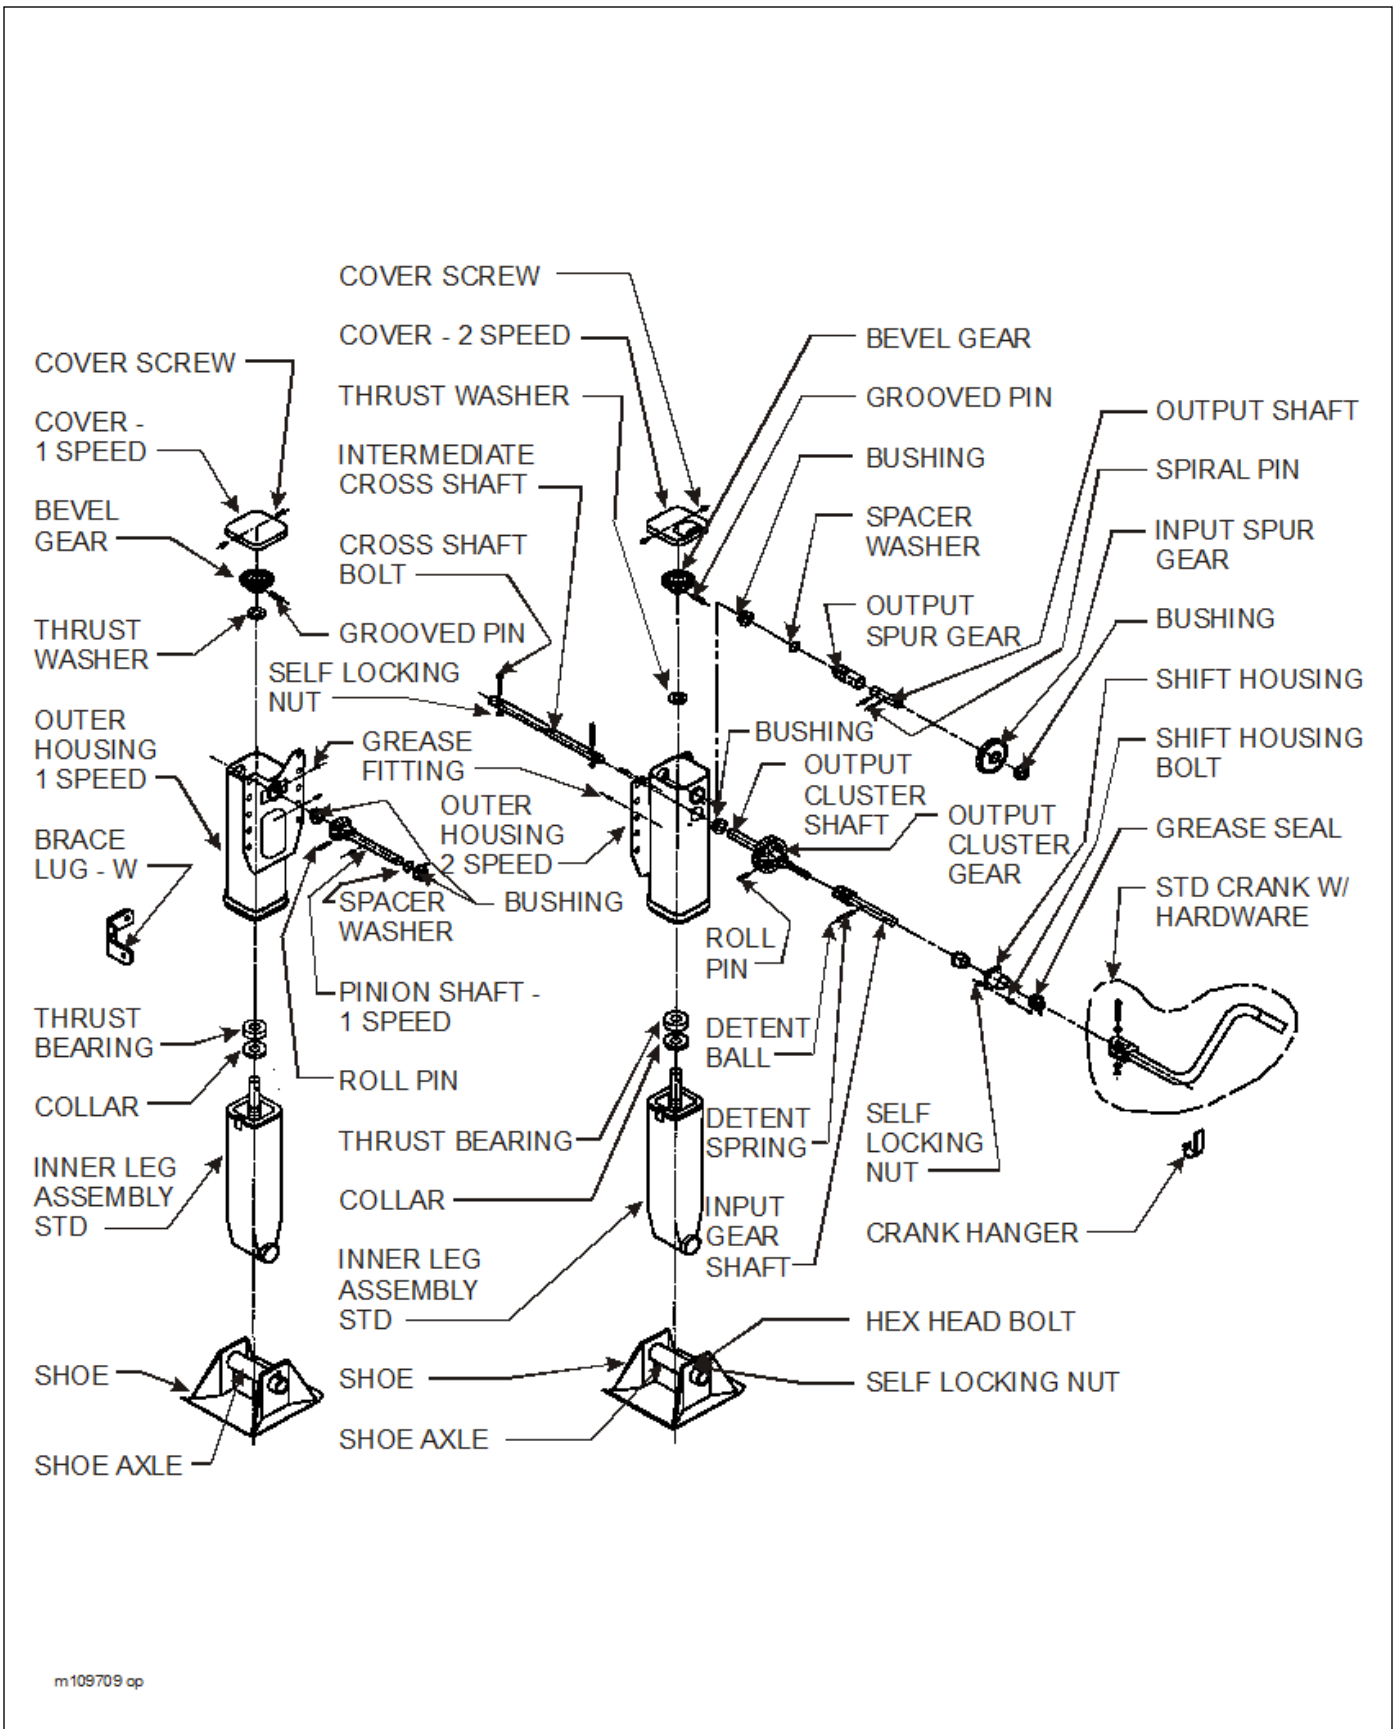

Figure 4-21: Crank Landing Gear Assembly
2. The elevating screw is lubricated by the lower grease fitting located on the upper housing (**See Figure 4-21**) Prior to lubrication, extend the landing gear as far as possible. During lubrication, slowly retract the landing gear. The upper grease fitting lubricates the gearing, shafts, and bushings. It is recommended to use a high quality commercial grade lithium EP-2 grease.